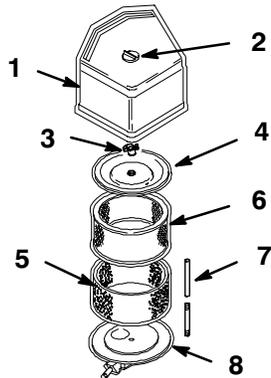

Figure 16
3. Clean around the air cleaner to prevent dirt from getting into the engine and causing damage. Remove knob and the air cleaner cover (Fig. 16).
4. Carefully slide the foam element off the paper element (Fig. 16).
5. Unscrew the cover nut and remove the cover and paper element (Fig. 16).